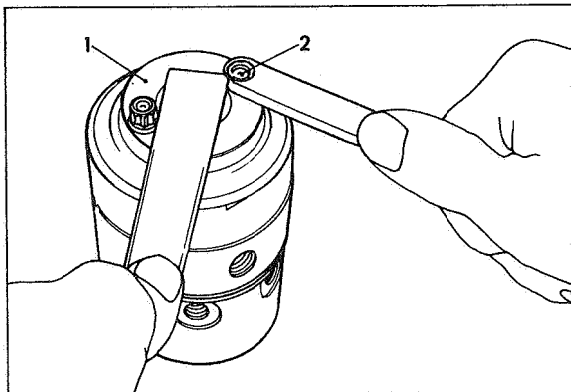

Fig 76 Loosening drive plate screws
Place the head and rotor assembly on the bench. As illustrated in Fig 76, hold drive plate (1) with Tool Part No 7144-939 and loosen drive plate screws (2) with Tool Part No 7144-511A.